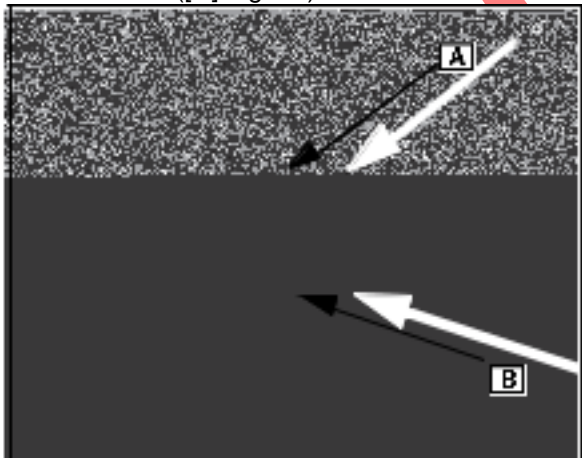

Fig. 26
Stake the bearing in place by driving a long punch (B) against the edge of the oil hole ([A] Fig. 26).